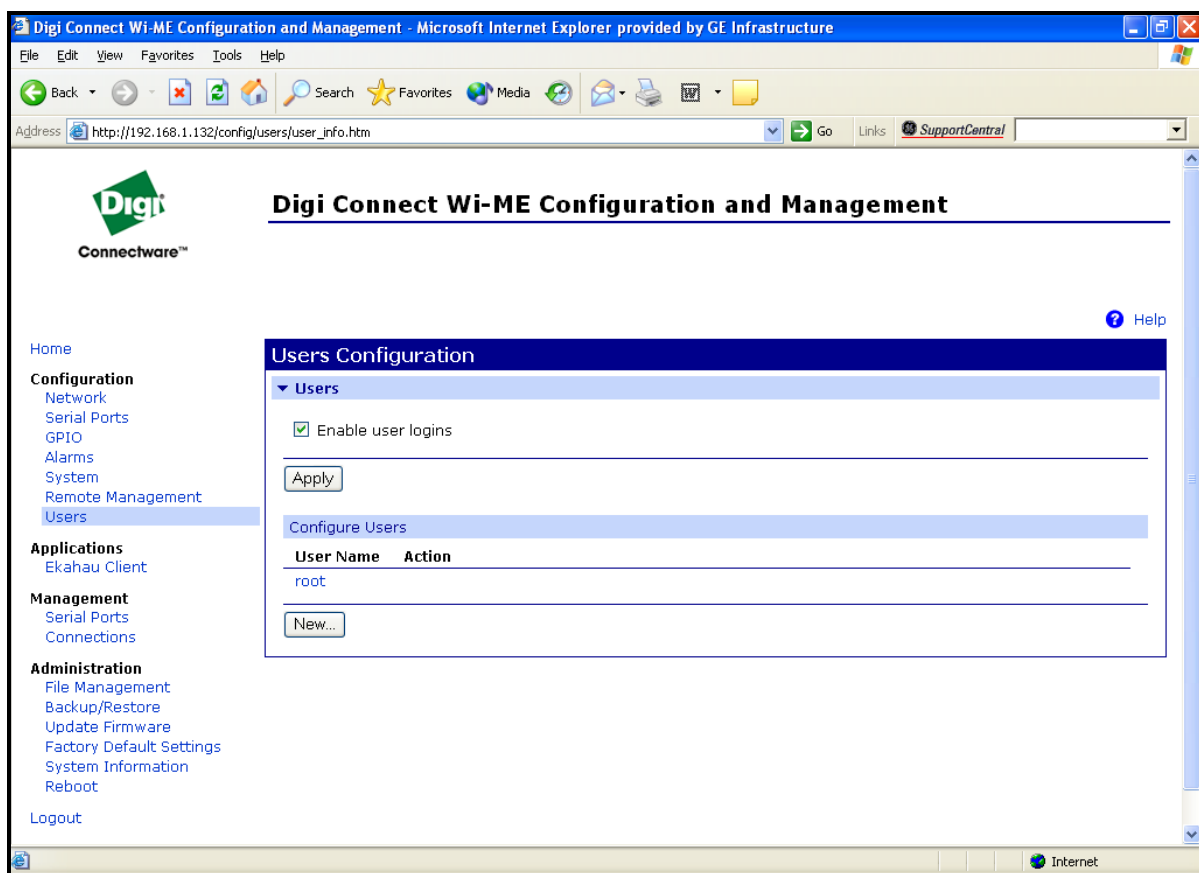

Figure 43: User's Configuration Menu
3. Click on **Login**. Figure 43 below appears.